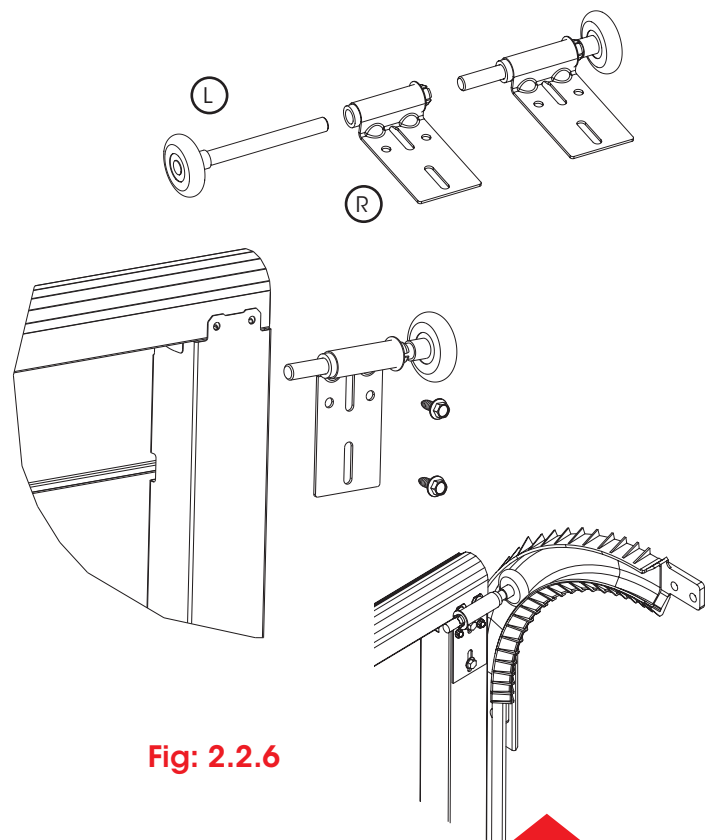

Fig: 2.2.6
k) Insert the appropriate wheel axle (L) (standard, extended or smooth track) into the top hanger (R) Fig 2.2.6.